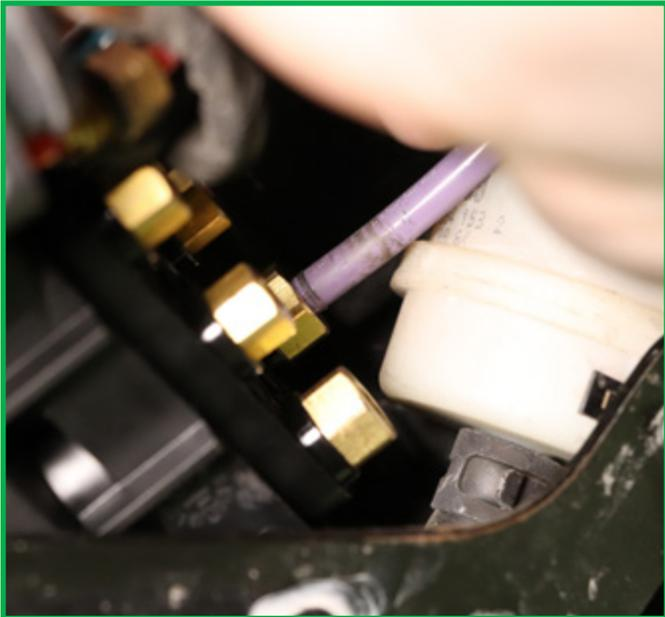

FIGURE 12
3. Install the air lines. Press in the air lines firmly until full seated. (Figures 12, 13)